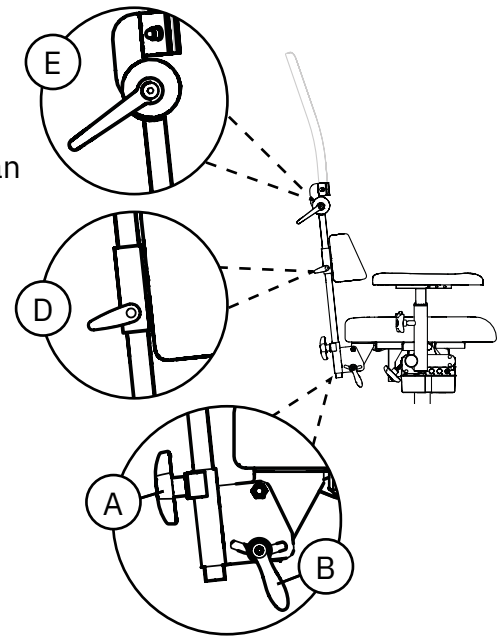

Figure 5.9. High Backrest with adjustable cushion and headrest in Makrolon.
The Standard X-ray backrest mechanism's backrest is adjustable in terms of height (A) and the angle of the backrest mechanism is adjustable (B). The backrest also has a height-adjustable lumbar support cushion (D) and an angle-adjustable headrest (E) (see Figure 5.9).